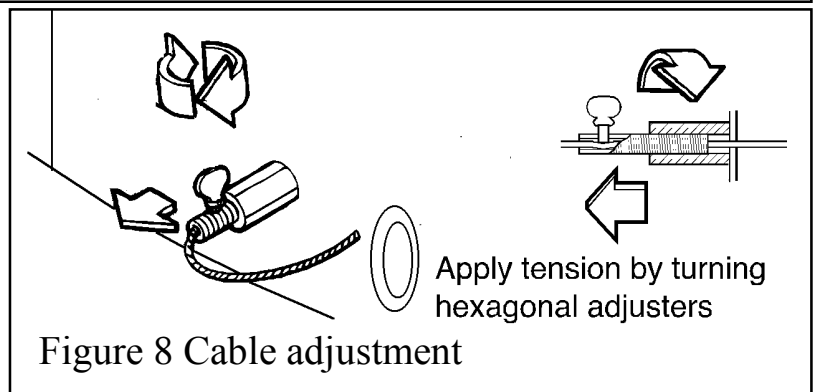

Figure 8 Cable adjustment
- Assemble one end of a cable through the small round hole at the side of the appliance rear flue opening and locking it by positioning the cable end in the adjacent slot. Pass the other end of the cable through the eyebolt & then through the hole near the lower rear corner of the appliance and fit an adjuster as shown in figure 8. Repeat with the second cable at the other side.